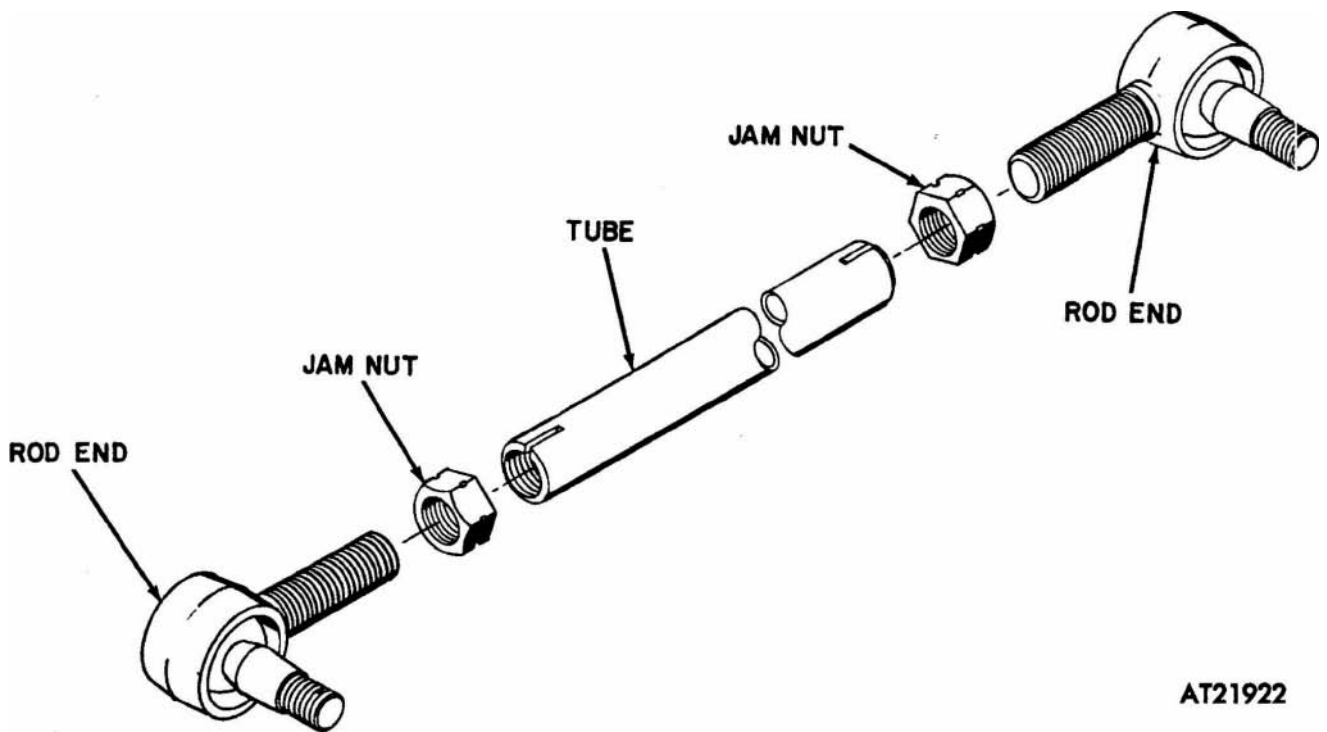

Figure 2-269. Tractor intermediate tie rod, disassembly and assembly.
(1) Loosen jam nuts securing rod ends to intermediate tube (fig 2-269).
(2) Remove rod ends from intermediate tube. Remove jam nuts from rod ends.
(1) Install jam nuts on rod ends and install on intermediate tube (fig 2-269).
(2) Adjust rod ends to attain measurement of **31-3/4** inches (between centers of rod ends). Secure rod ends by torquing nuts against tube **90-100 lbs-ft.**